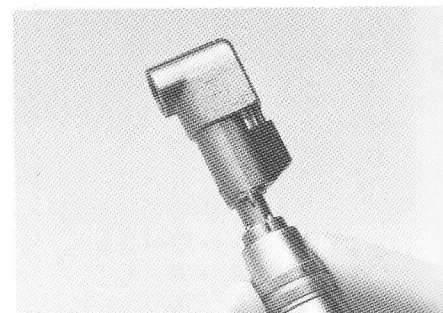

Figure 23
2. Insert contra angle head into handpiece. Align flanges of head with grooves of handpiece lock collar. See Figure 23.